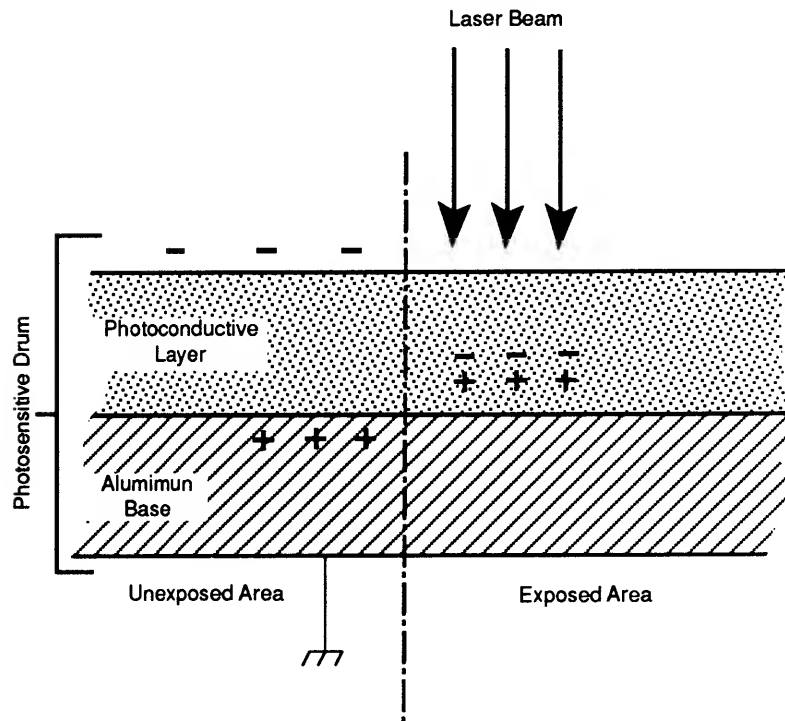

Figure 1-19 Scanning Exposure
2. **Scanning Exposure:** In this step, the laser beam scans over the drum surface (**Figure 1-19**). In the area where the beam strikes the drum, the charge is neutralized. The charges remaining on the drum form an *electrostatic latent image*, an invisible pattern identical to the original image.